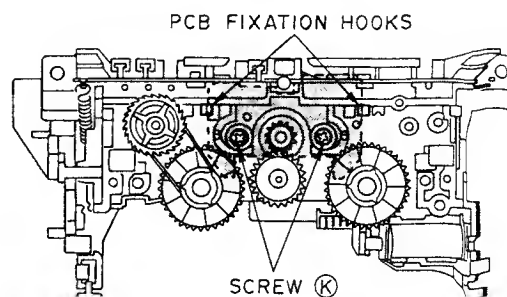

Fig. 3-12
- 2) Remove the PCB retaining screw ③.
- 3) Release the two hooks which retain the REEL PULSE DETECTION PCB and remove the PCB. (Refer to Fig.3-12)
- 4) Remove the springs of the assist lever (A) and (B).
- 5) Extract the assist lever (A) and (B).
- 6) Remove the reel motor retaining screws ⑧ and remove the REEL MOTOR.